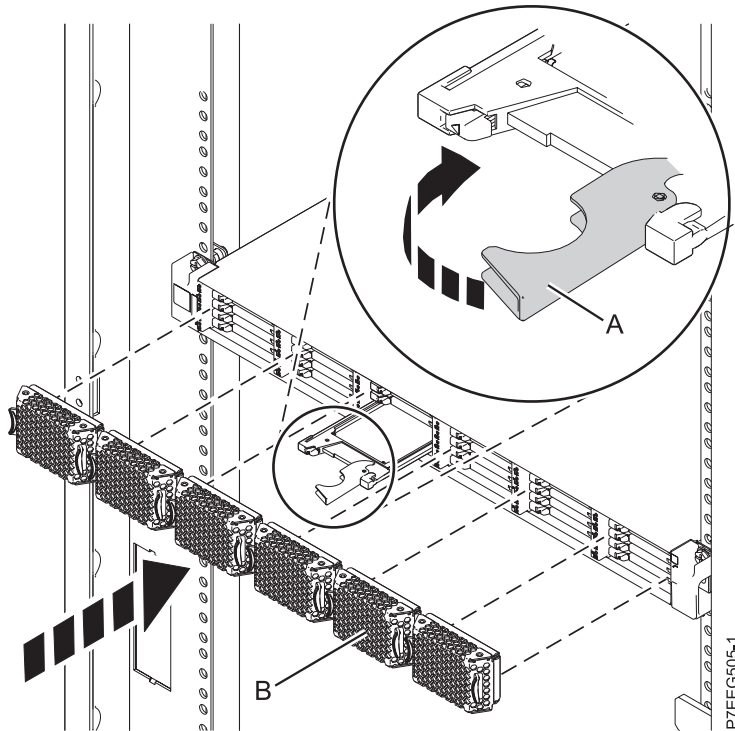

Figure 3. Installing a solid-state drive in the 58/88 PCIe storage enclosure
1. With the handle in the unlocked position, align the solid-state drive with the guide rails in the enclosure. See Figure 3 on page 10.